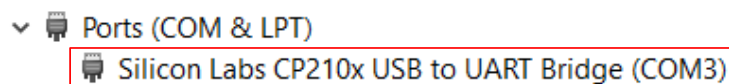

Figure 4: USB Port
**Step 4:** Select the correct “**COM Port**” (USB Port shown in **Figure 4** above) and set the correct “**Baudrate**”.